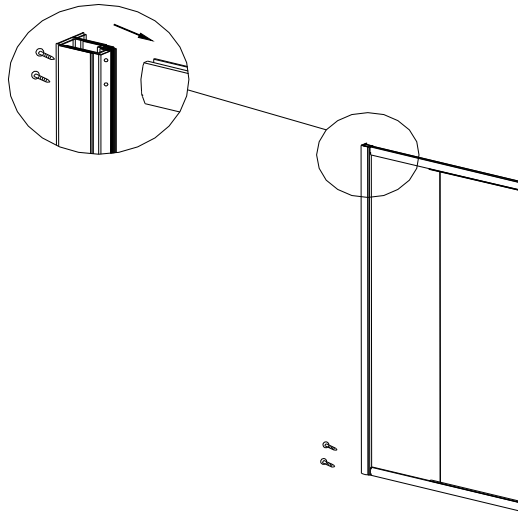
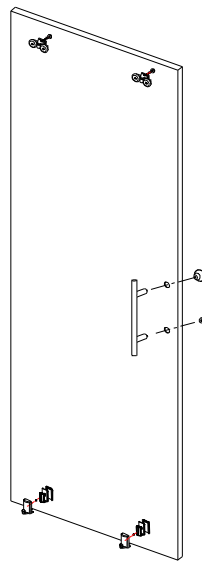

Figure 4
Figure 6
- Attach the seal of the fixed panel (14) to the wall side of the fixed panel (6). Place the fixed glass panel (6) between the two rail profiles (10), as shown in figure 4.
- Fix the construction made in step 5 to the fixed profile (4) by using the ST4x30 screws, two screws used at top and two at bottom of the fixed profile (4), as shown in figure 4 and 5.
- Repeat step 5 and 6 for the other fixed glass panel (6).
- Attach the vertical seal (15) on the other side of the fixed panel (6).
- Assemble the handles (9), tandem rollers (7) and bottom sliders (15) on both sliding doors (8), as shown in figure 6.